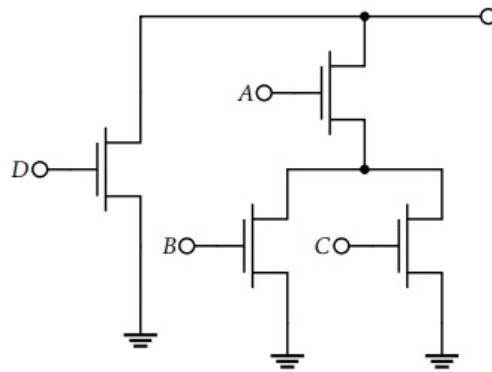

Figure 10: Pull Down Network (PDN)
- And lastly, since D is added to the combination $A \cdot (B + C)$, D must be placed in parallel with $A \cdot (B + C)$. The result is shown in Figure 10.